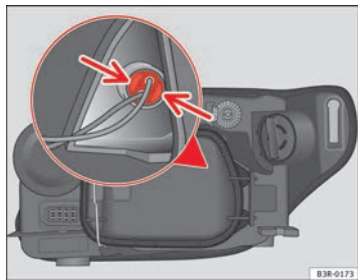

Fig. 211 Side light bulb (outside of vehicle)
- Gently press on the bulb holder tabs ⇒ fig. 211 and pull the cover upwards (it can also be removed by pulling on the bulb holder wires).